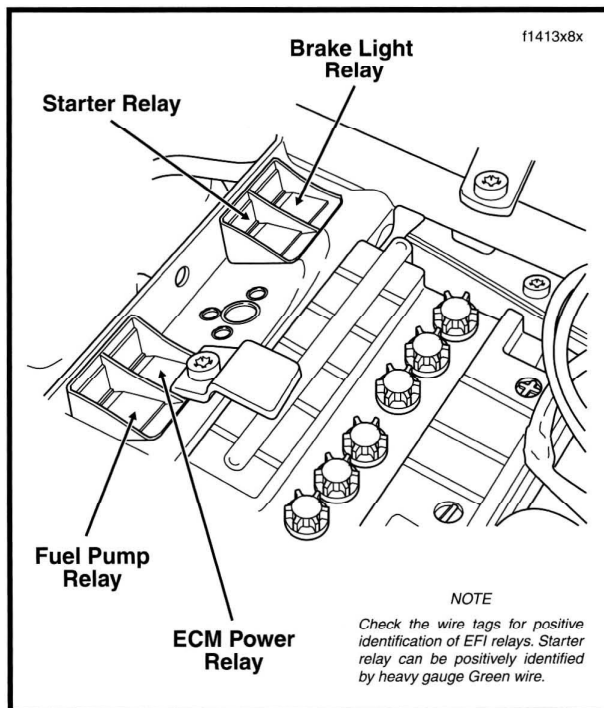

Figure 5-2. Locate Relays Behind Battery Box (Right Side View)
2. Note the two electrical relays mounted on the **left** side of the vehicle at the rear of the battery box. See Figure 5-2.